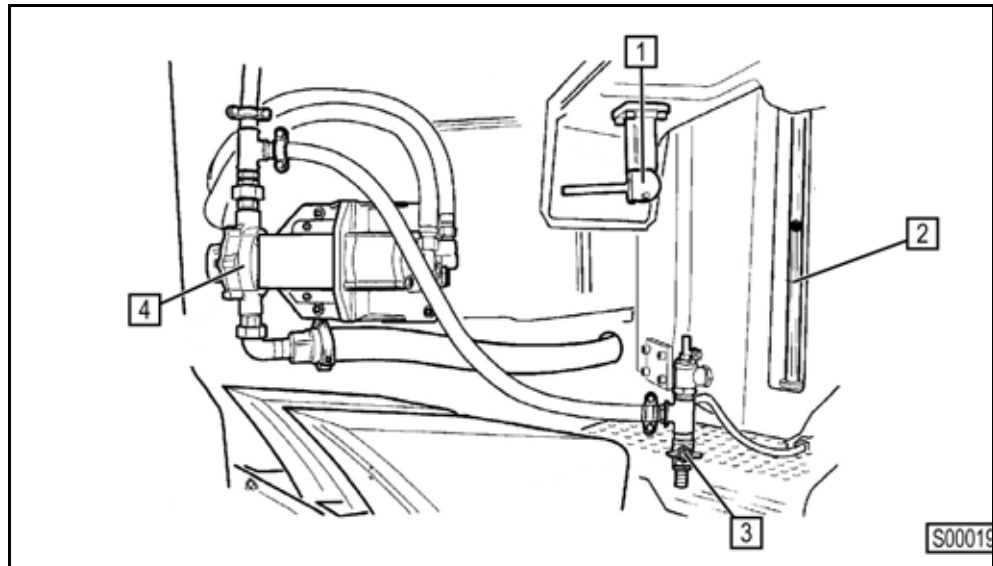
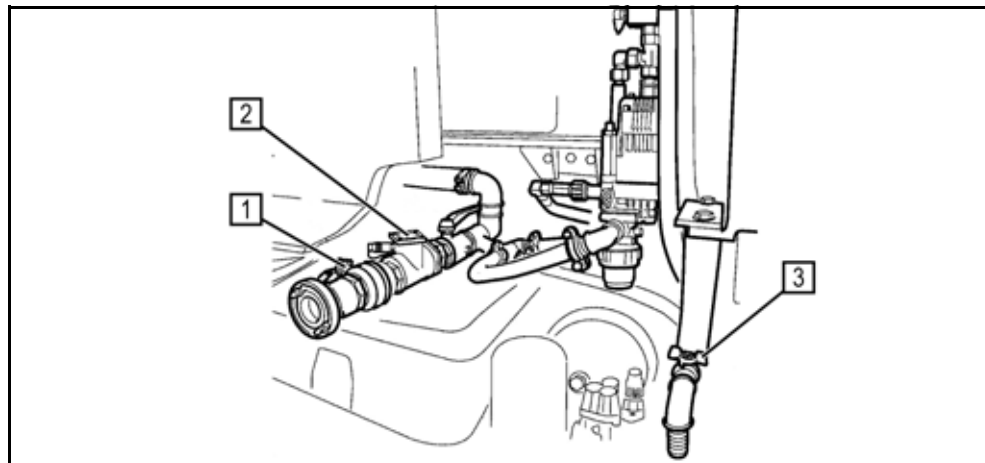

Fig. 184
Fig. 186
The hydraulically driven water pump 4 (**Fig. 184**) is located on the left of the boom column.
- Check the water level in the reservoir (2) (**Fig. 184**).
- Close the ball valve 2 (**Fig. 186**) to prevent the water case from running dry.
- Open the drain cocks 3 (**Fig. 184**) and (**Fig. 186**)
- Open the drain cock of the water case 1 (**Fig. 186**) to empty the water case.
Do not forget to fill the water case and to open the ball valve 2 (**Fig. 186**) in the suction pipe before switching on the water pump or the high-pressure cleaning system (special equipment).
The hydraulically driven high-pressure water pump 4 (**Fig. 186**) of the system is located near the water case.